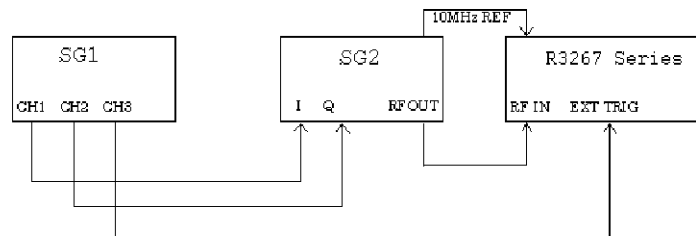

Figure 6-6 Setup for RF Signal Measurement (Reverse Link)
1. Connect the R3267 series equipment to the signal generator as shown in Figure 6-6.